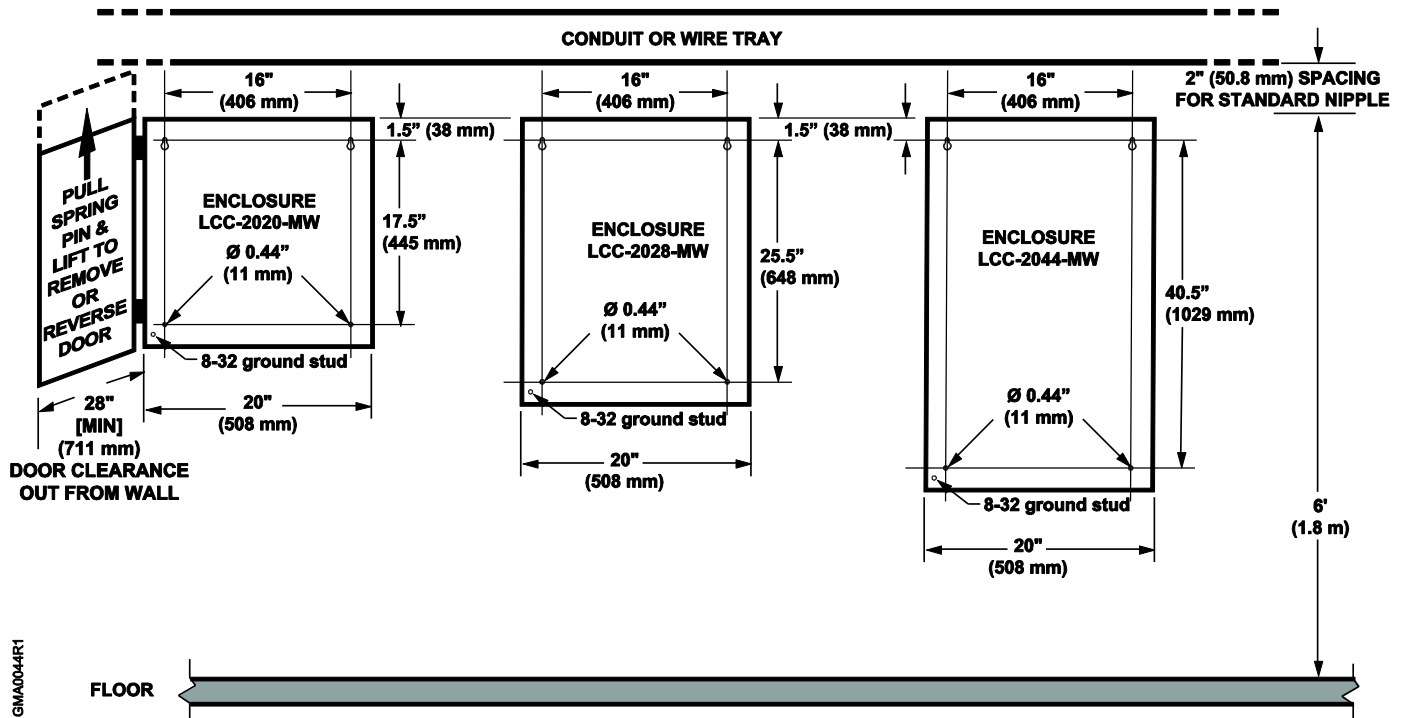

Figure 1: Enclosure Placement Dimensions.
- Determine the mounting location of the enclosure using the following spacing requirements and Figure 1.
- Using the dimensions in Figure 1 for placement, drill the two upper mounting holes.